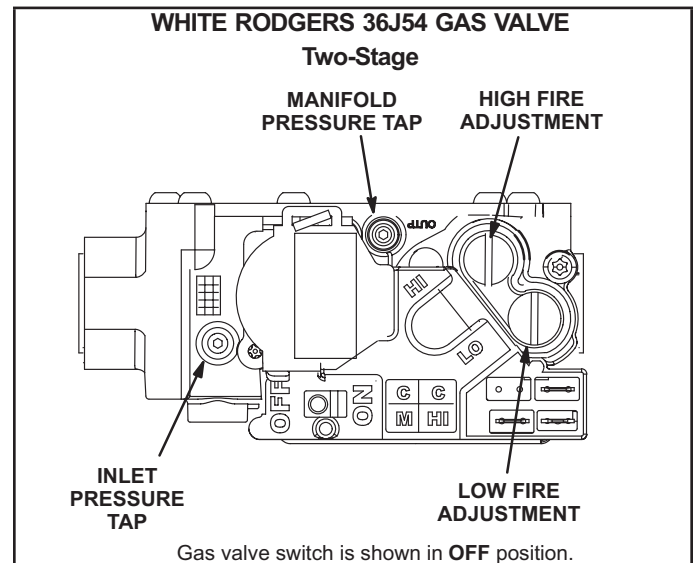

FIGURE 30
#### Gas Valve Operation (FIGURE 30)
- 5 - Move gas valve switch to **OFF**. See FIGURE 30.
- 6 - Wait five (5) minutes to clear out any gas. If you then smell gas, **STOP!** Immediately call your gas supplier from a neighbor's phone. Follow the gas supplier's instructions. If you do not smell gas, go to the next step.
- 7 - Move gas valve switch to **ON**. See FIGURE 30.